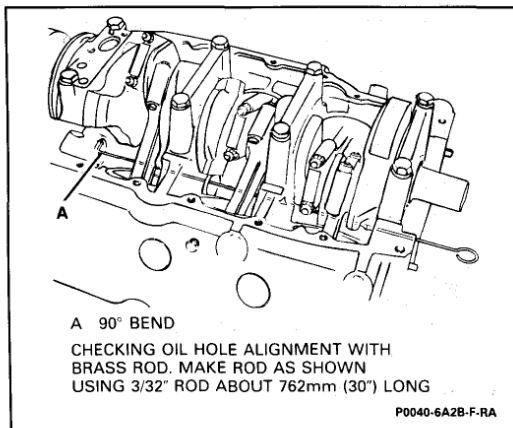

Figure 61 Checking Camshaft Bearing Oil Hole Alignment
CAMSHAFT BEARINGS**Figure 61**
1. New camshaft bearings (101).
- With a piece of 3/32 inch brass rod with a 90° bend at the end, probe the bearing oil holes and verify that they are properly aligned (Figure 61).